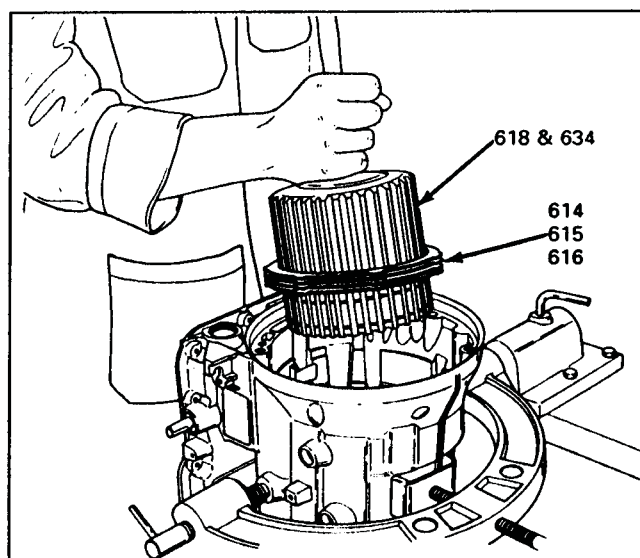

Figure 43
13. Grasp the intermediate shaft, twist and remove the second and third clutch assemblies with reverse clutches. (See Figure 43).